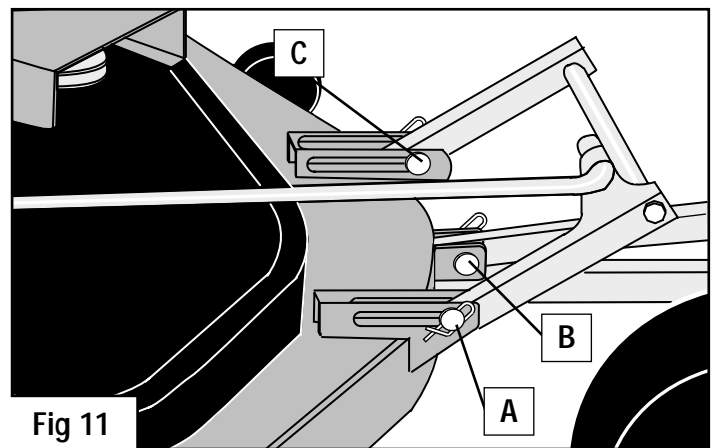

Fig 11
3. Remove the 3 securing pins from the front of the deck (fig 11 – A, B and C) by pulling out the spring clips.